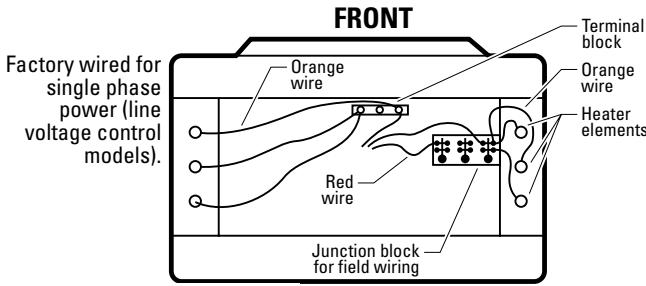

Figure 9. **BACK**
1. Models with Line Voltage Control (See Figures 9 & 10)